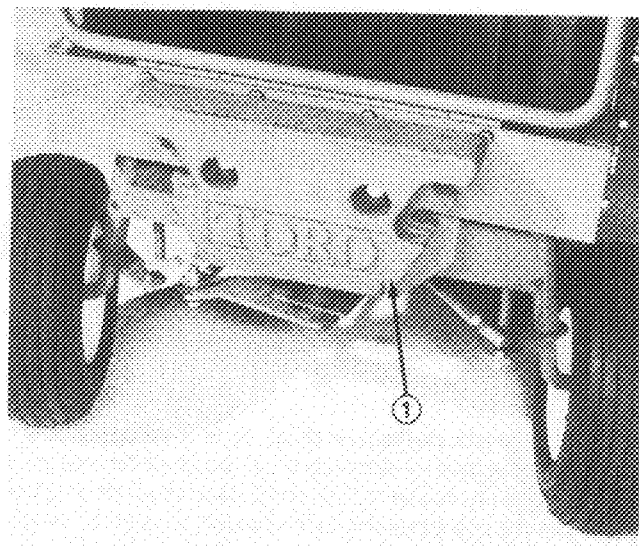

Figure 5
3. Mount weight to frame with (2) 1/2 - 13 x 1-1/2" lg. capscrews and lockwashers (Fig. 5).